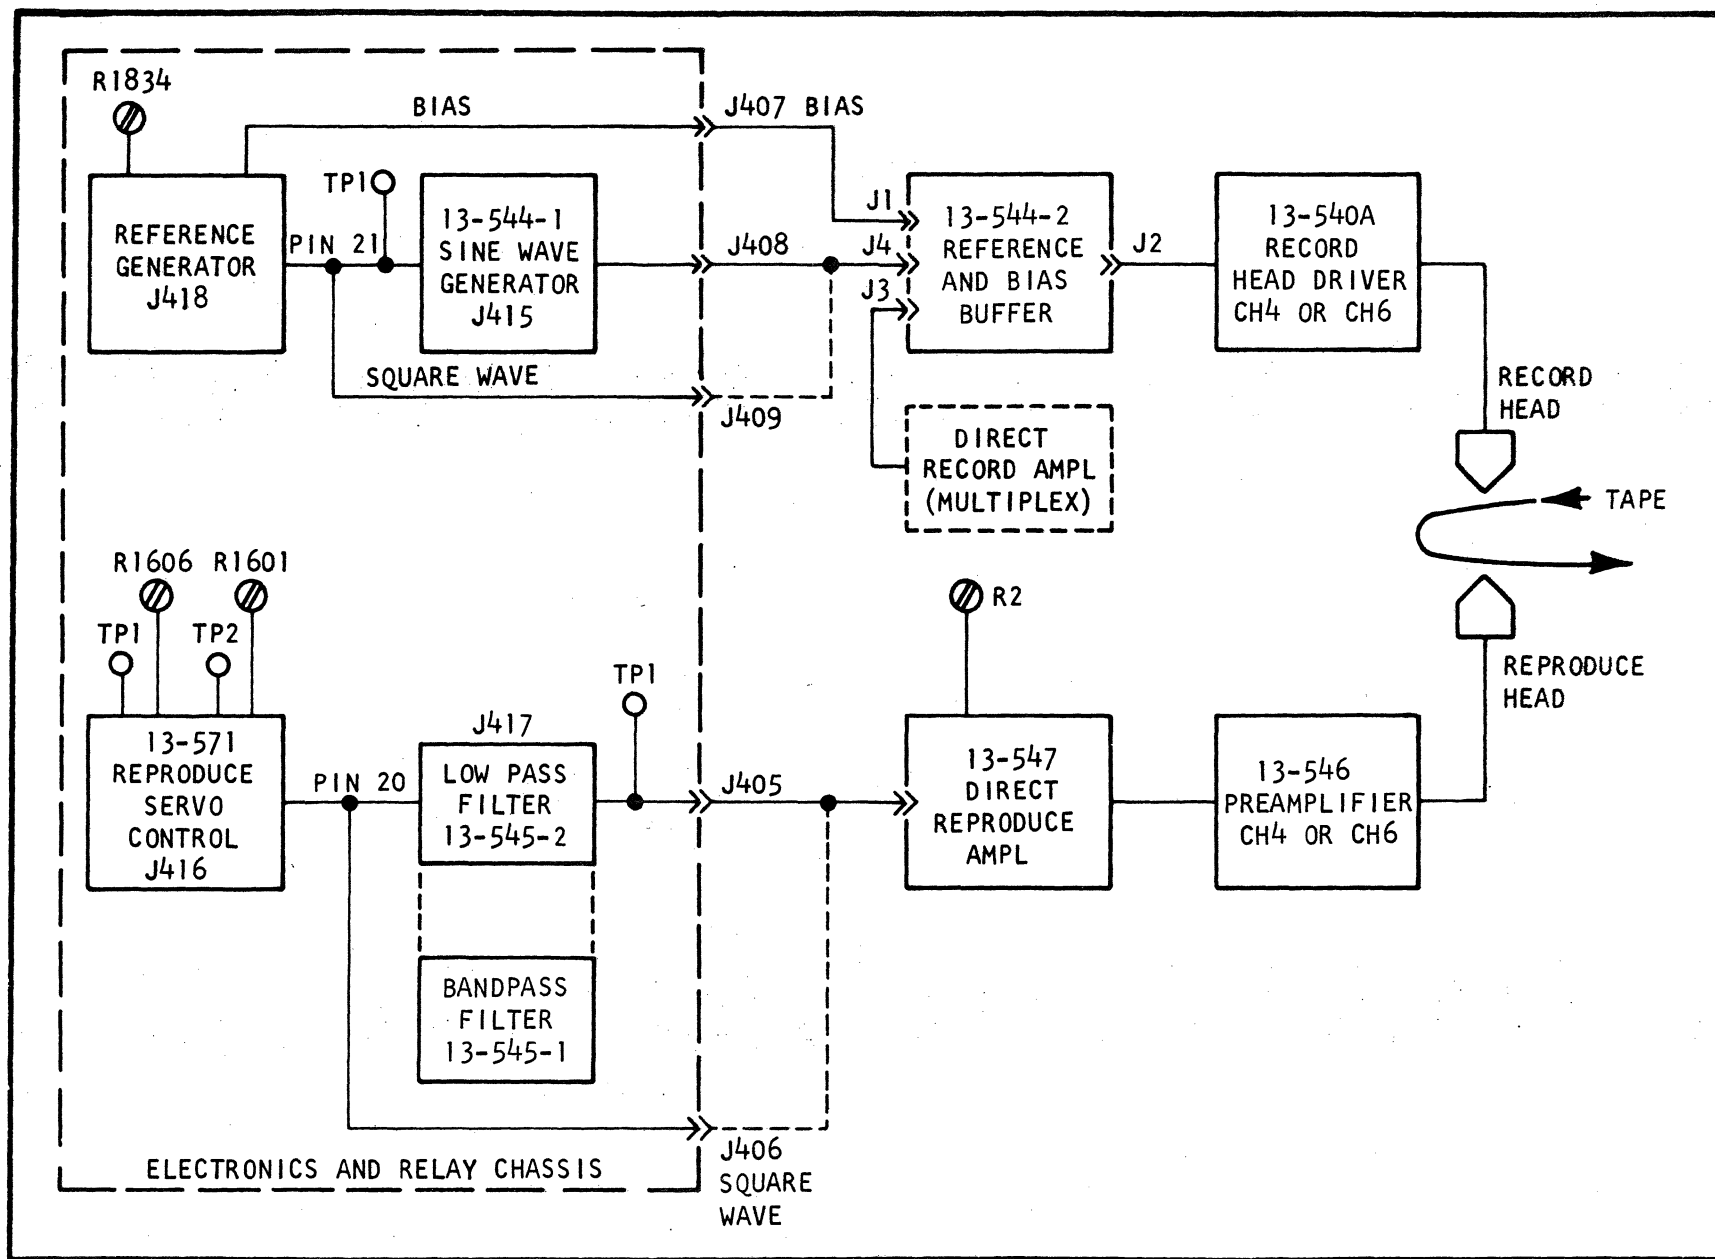

Figure 5-10. Servo Record and Reproduce Adjustment
- 5-85. SERVO RECORD ADJUSTMENT. Connect a coaxial cable between J409 on the electronics and relay chassis and J4 on the bias buffer (see figure 5-10).
- 5-89. SERVO REPRODUCE ADJUSTMENT. Servo control of the VR-3700B System necessitates the use of the 13-545-2 Low Pass Filter or the 13-545-1 Bandpass Filter Assembly in series with the input to the reproduce servo control amplifier (see figure 5-10).